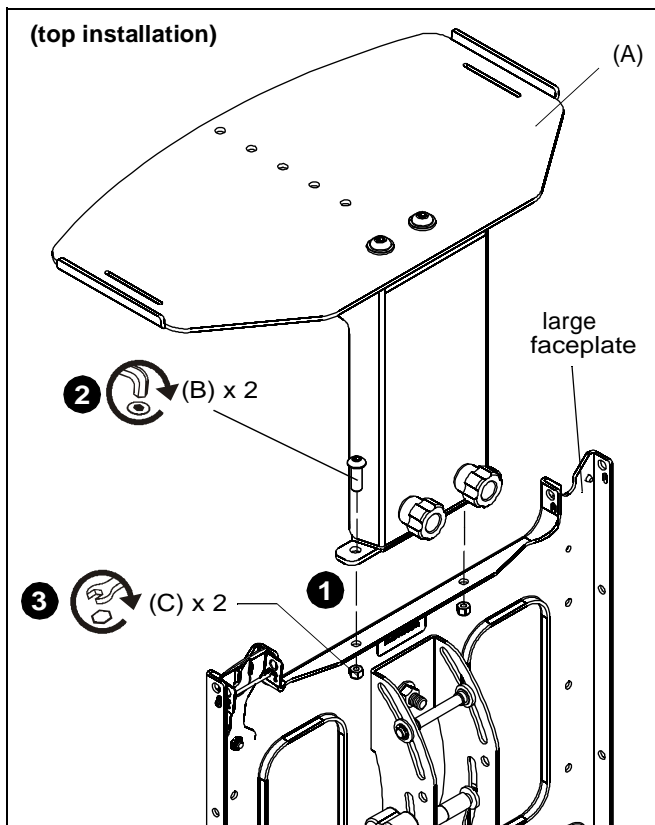

Figure 1
1. Position PAC716 shelf (A) above or below the faceplate making sure to line up the holes on the shelf with the holes on the faceplate. (See Figure 1 or 2)
2. Install two 1/4-20 x 3/4" button head cap screws (B) through holes in shelf and faceplate. (See Figure 1 or 2)
3. Thread two 1/4-20" lock nuts onto screws to fasten shelf to faceplate. (See Figure 1 or 2)